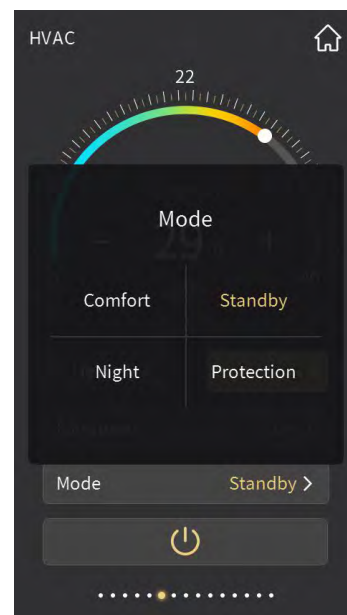

Fig.2.3.4
⑨ Enter the mode setting by touching this area, and will pop up a sub-window shown as figure 2.3.4.